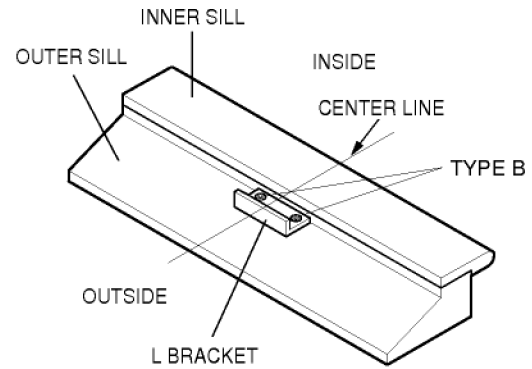

Figure 31
- Bracket helps to hold unit securely in place. Be sure to place bracket edge flush against back of inner sill. See Figure 31.
- Carefully lift the air conditioner and slide it into the open window. Make sure the notch of the bottom guide fits over the **L** bracket and pops into place. See Figure 31.